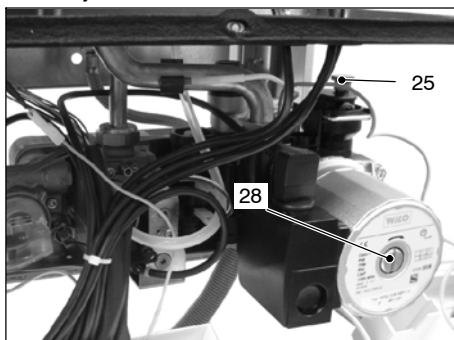

Fig. 7.3
- 4 Lift the cap on the automatic air purger valve 25 (Fig. 7.3) one full turn and leave open permanently.
- 8 Purge the air from the pump by unscrewing the pump plug 28 (Fig. 7.3); release the pump shaft by turning in the direction indicated by the arrow on the information plate.